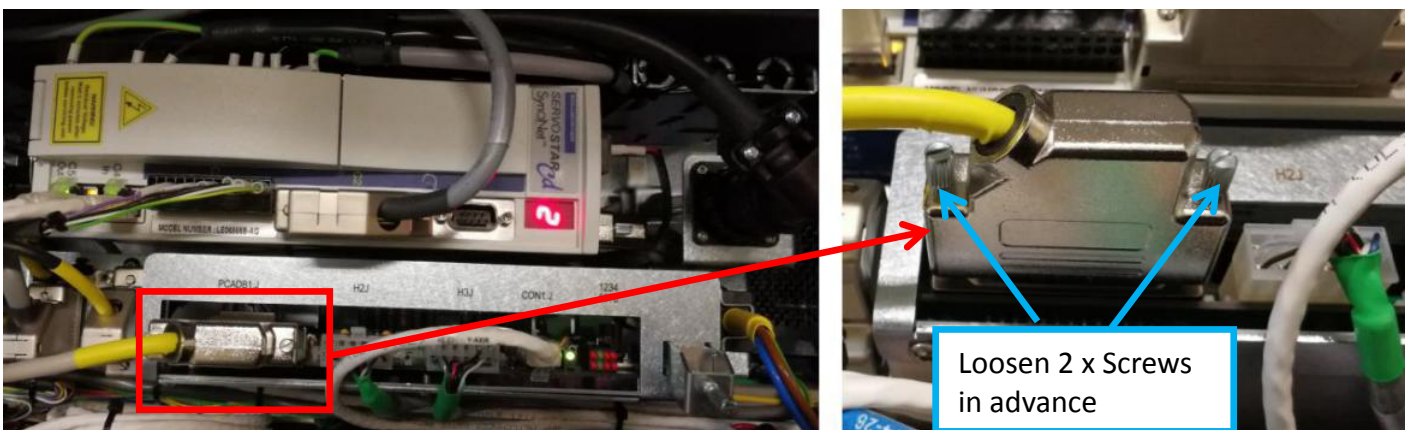

Figure 8
11. Disconnect Smema GPO/UPO Signal connector from PCAADB1J as Figure 8